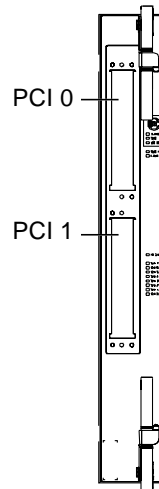

FIGURE 14 PCI Slot Numbering
1. Determine the slot for installing the PCI card. See FIGURE 14.